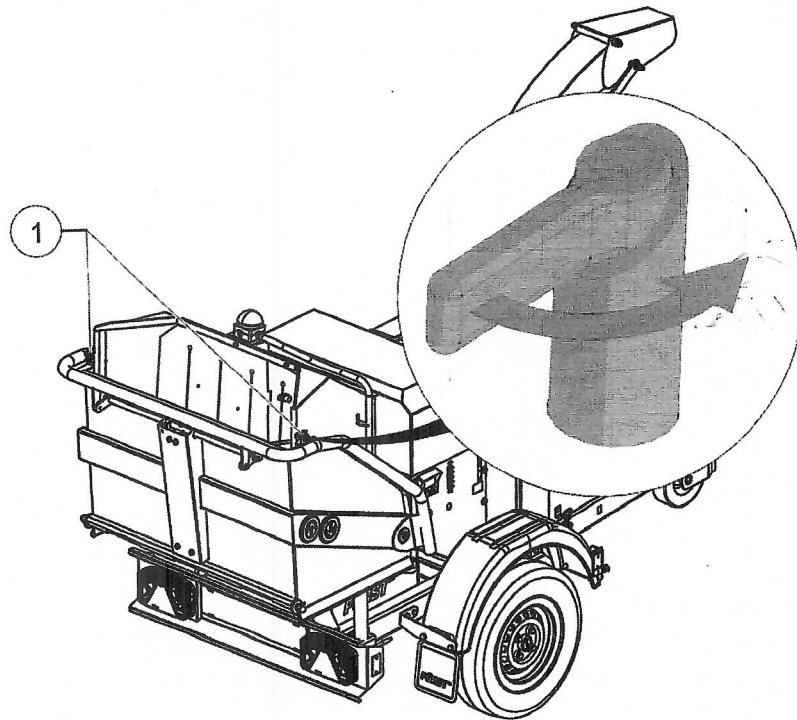

Figure 30 - Hopper tray locking latch
2. Disengage both hopper tray locking latches (1, Figure 30).